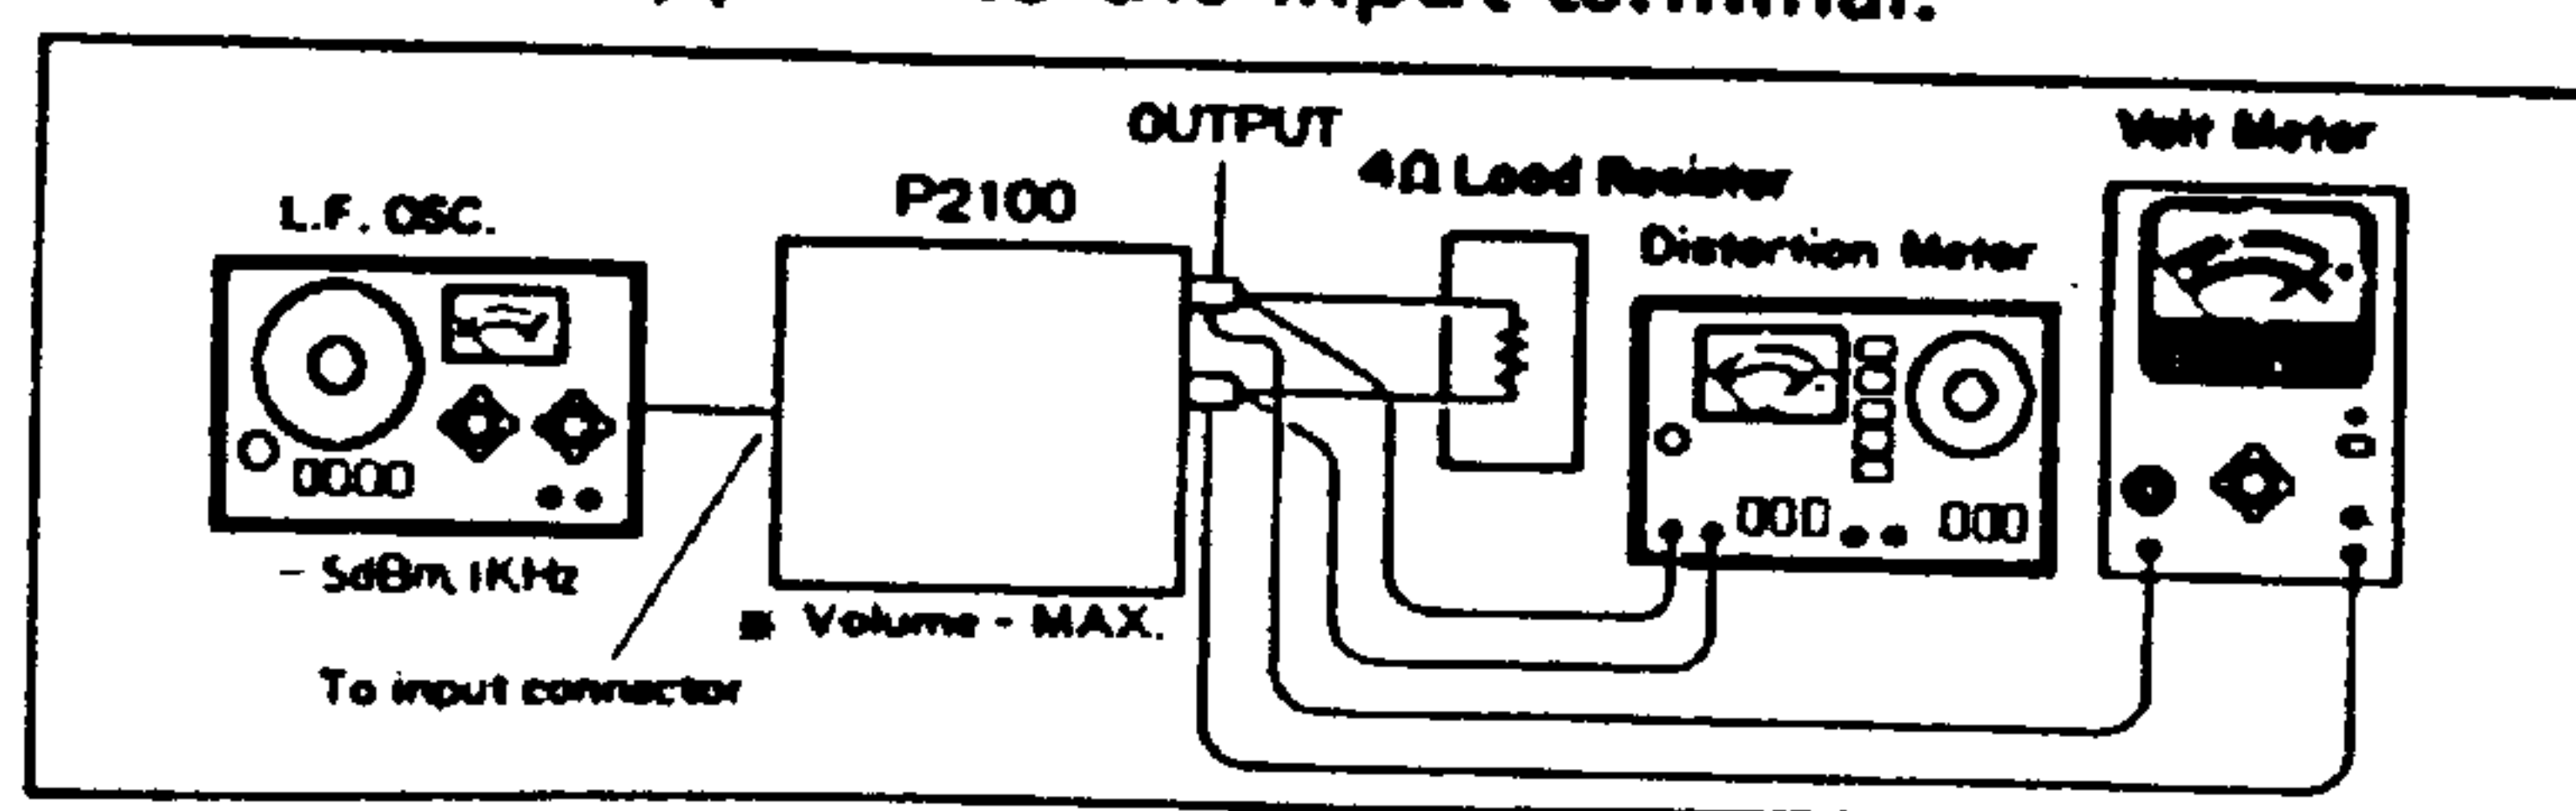

Fig. 2
- Connect the equipment as shown in Fig. 2.
- Connections are the same as those in Fig. 2, but in addition, connect a distortion meter to the output terminals.
- The connections are the same as those in Fig. 2 but the waveform can be observed when an syncroscope is connected.
- The connections are the same as those shown in Fig. 2. In addition, connect a distortion meter to the output terminals.
- The connections are the same as those in Fig. 2.